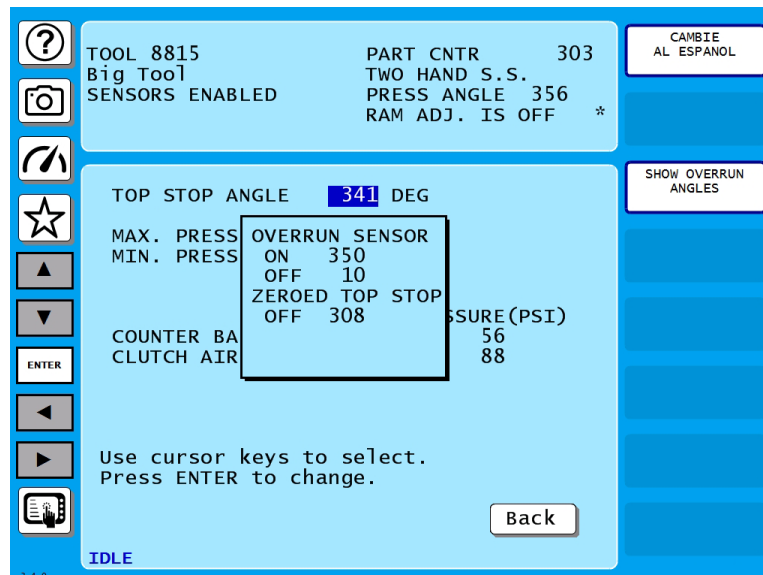

Figure 5-12. Press Control Parameters Screen Showing Overrun Angles Window
You can also view (but not adjust) the angles at which the overrun sensor turns on and off (see *Figure 5-12*, page 81).
2. On the Press Control Parameters screen, press F3 (Show Overrun Angles). A window like the one shown in Figure 5-12 displays.